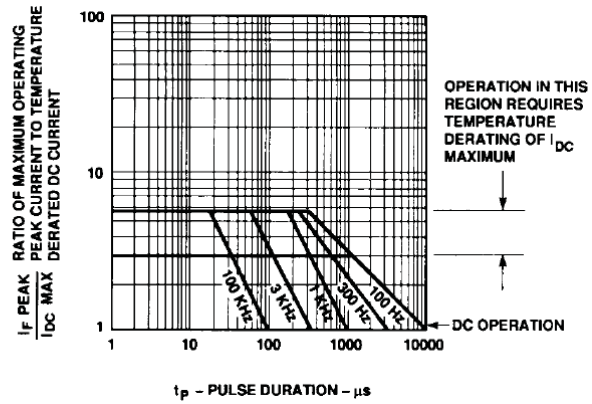

Figure 7. Maximum Tolerable Peak Current vs. Pulse Duration – Yellow.
- See Figure 7 to establish pulsed conditions.